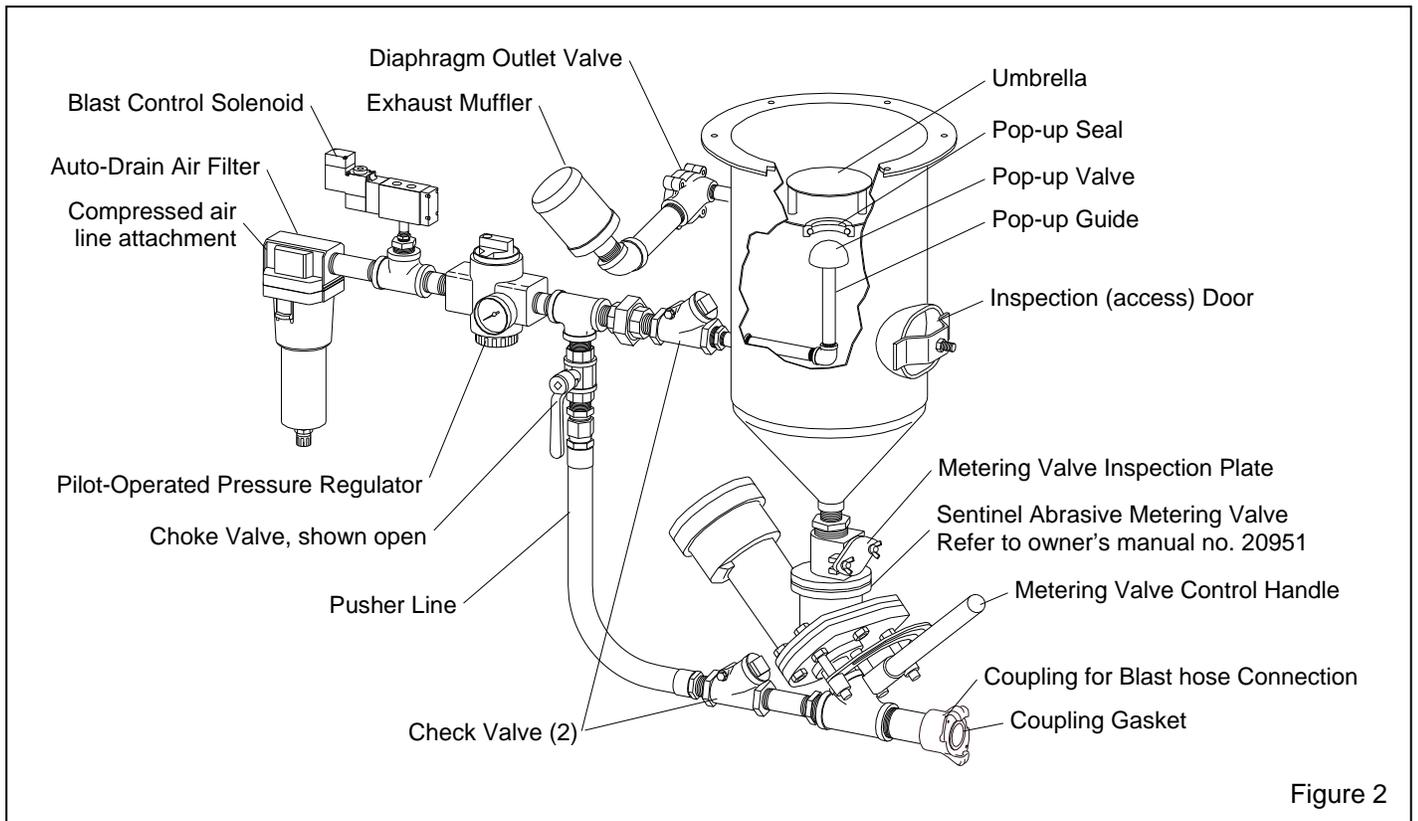

Figure 2
Refer to Figure 2 for blast machine components.
1.5.1 Temporarily closing the choke valve while blasting clears minor blockage caused from bridging and damp abrasive. Always blast with the choke valve fully open; the valve is open is when the handle is vertical and aligned with the piping as shown in Figure 2.